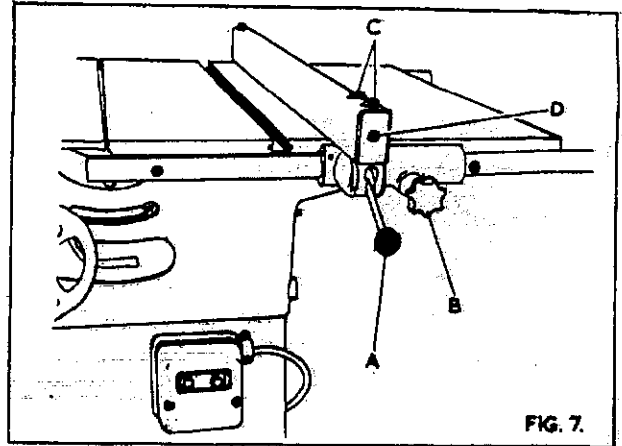

FIG. 7.
1. Lift handle "A", in fig 7, and disengage the pinion from the front racked fence bar by pulling handwheel "B" out of the fence front bracket.
3. If the fence is incorrectly aligned loosen the two hexagon head bolts "C", in fig 7 and re-align as above. When set tighten all bolts.